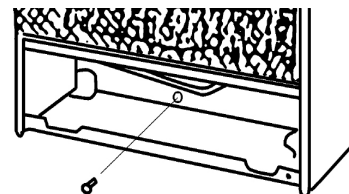

Figure 11 - Installing Bottom Mounting Screw
1. Locate bottom mounting hole. This hole is near bottom on back panel of heater (see Figure 11).